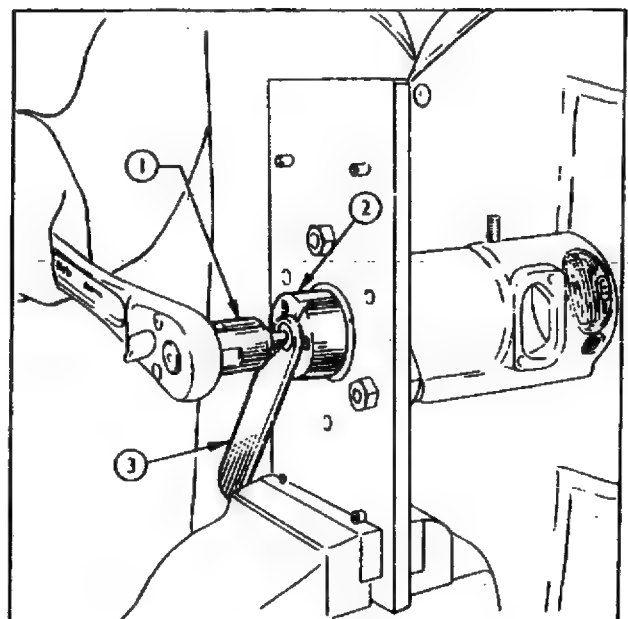

Fig. 80 1 Adaptor Key Tool No. CA.69
35. Unscrew the drive hub retaining screw, using adaptor key Tool No.CA.69, and holding the drive hub with spanner Tool No.CA.67 (see Fig.80). Remove the drive hub and extract the double coil spring washer.